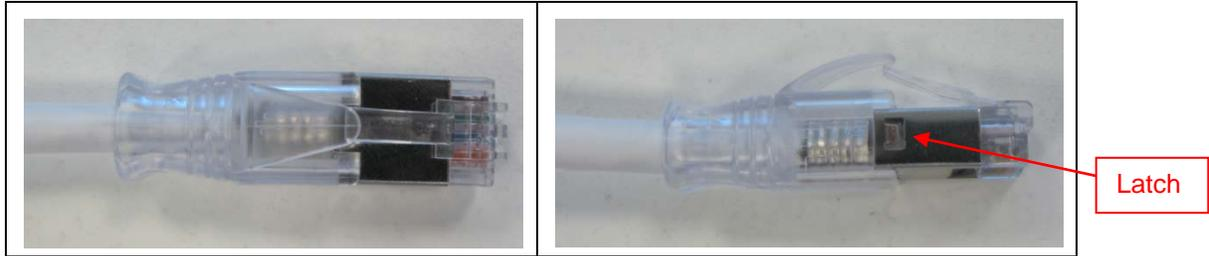

Figure 15. Slide Boot over Crimped Plug
6. Slide the boot over the crimped plug and shield up to the end. A double click shall be heard when both latches are in their place See Figure 15.